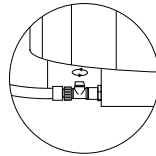

Figure 13.5d
5. Turn the hose bib switch to the open position to release the water, Figure 13.5d.